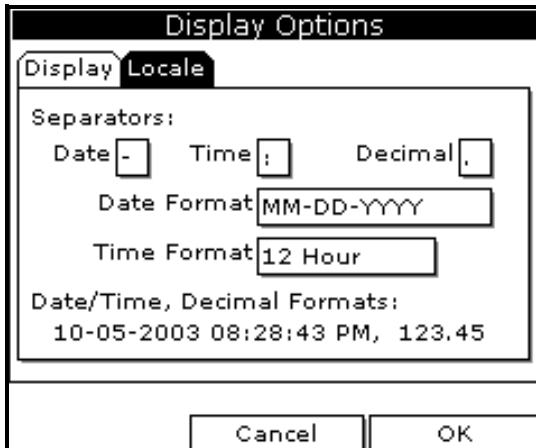

Figure 19: Locale Tab
3. Use the arrow key to scroll to **Locale** and press [ENTER]. A screen similar to Figure 19 appears.